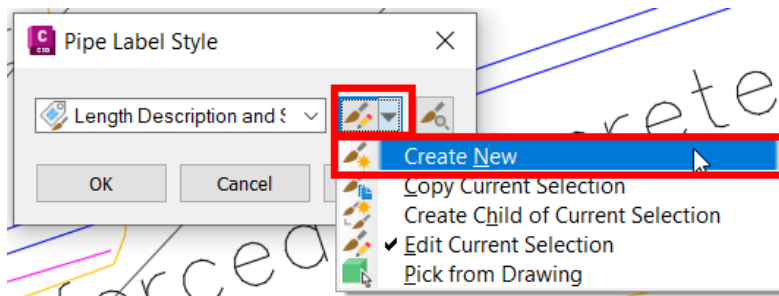

Figure 10.15 – Create new pipe label style
3. Once the **Pipe Label Style** dialog box appears, go ahead and select the **Create New** option, as shown in *Figure 10.15*.